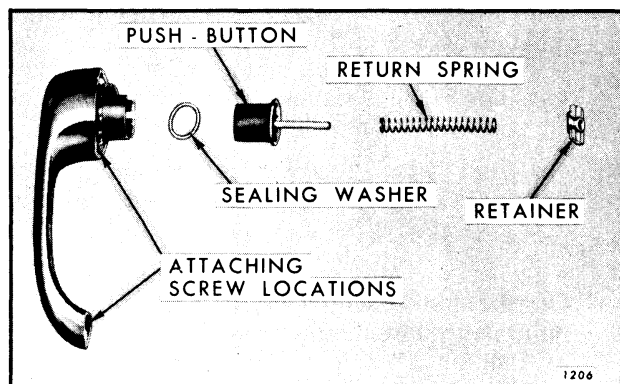

Fig. 5-31-Front Door Outside Handle - Push-Button Handles ("X" Styles Shown, "B-C" Styles Similar)
2. Depress retainer slightly and rotate 1/4 turn in either direction. Remove retainer, spring, push button and shaft and sealing washer from handle (refer to Fig. 5-31).
**NOTE:** "B and C" style rear door handle push buttons, springs and retainers are serviced as an assembly. The die case handle is serviced separately. Front door handle components are serviced separately as shown in Figure 5-31. Lift-bar and pull-out handles are serviced as an assembly.